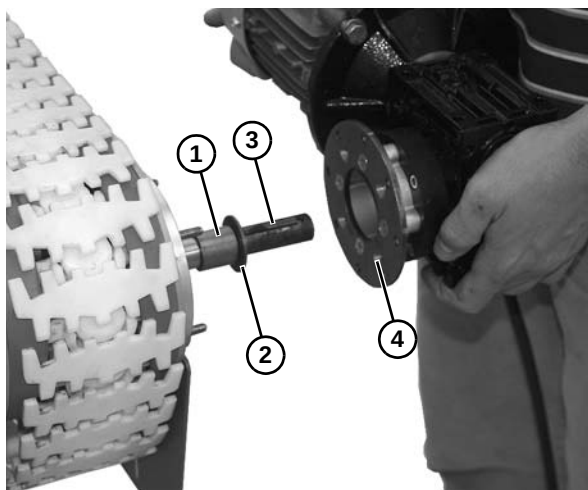

Figure 48
1. Install spacer (when applicable) (**Figure 48, item 1**), washer (**Figure 48, item 2**), and key (**Figure 48, item 3**) onto drive shaft.
2. Attach the motor (**Figure 48, item 4**) onto the drive shaft.